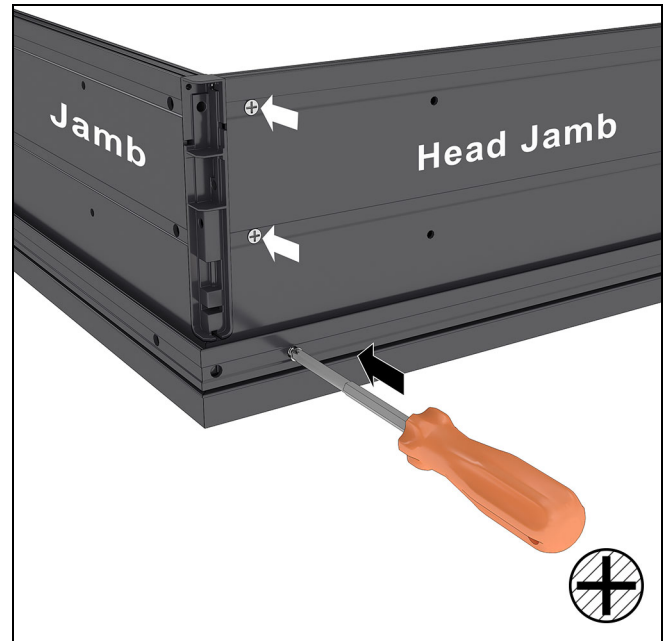

Figure 24
6. Fasten the head jamb to the corner keys with three (3) # 8 x 3/8" flat head screws at the locations noted in Figure 24.